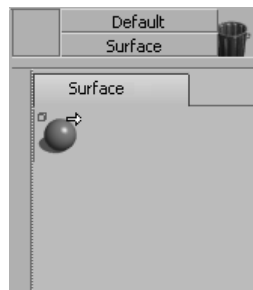

Figure 1-36 The **Sphere** tool added to the **Surface** shelf
4. Choose **Windows > Palette** from the menu bar; the **Palette** will be displayed. Next, expand the **Surfaces** tab by clicking on it. Drag the **Sphere** tool to the newly created shelf (**Surface**) by using the middle mouse button; the **Sphere** tool will be added to the new (**Surface**) shelf, as shown in Figure 1-36.